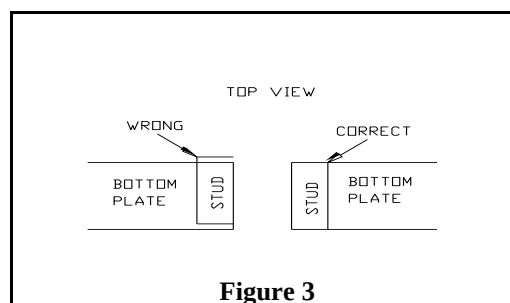

Figure 3
4. Make certain vertical studs are top flush with top and bottom plates. (See Figure 3)